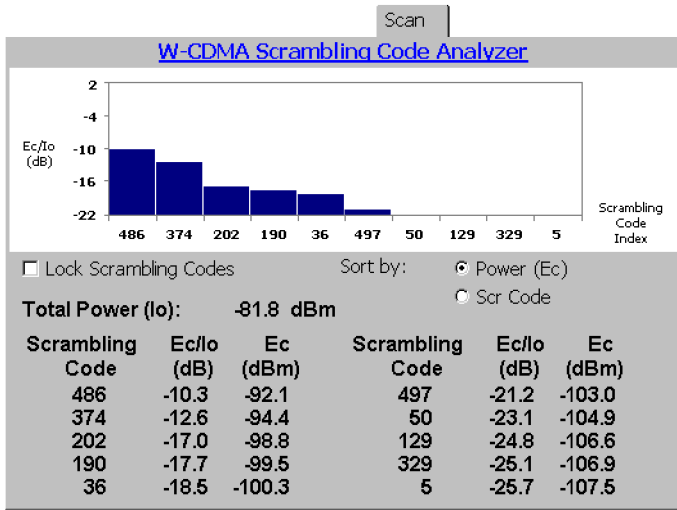

Figure 3-26: Scrambling code scanner display
7. Tap the **Scan** tab. See Figure 3-26.
- **Power (Ec)** to sort by descending Ec level. (See Figure 3-26.)
- **Scrambling Code (SC)** to sort by ascending Scrambling Code index.